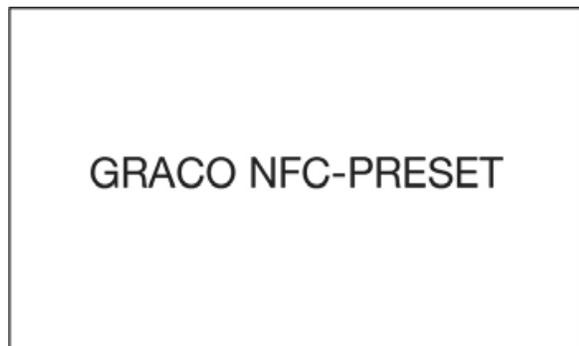
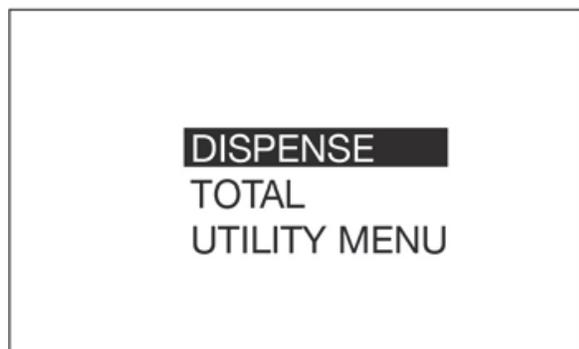

FIG. 38
FIG. 40
Restarts meter. After selecting RESET the screen display goes blank. After approximately 10 seconds the screens shown in FIG. 38- FIG. 40 display.
**NOTE:** The screen shown in FIG. 38 allows the user to upgrade for use with a Pulse FC system. See **Pulse FC Mode**, page 28 for instructions.
When the MAIN MENU Screen shown in FIG. 40 displays, the meter is ready to use.